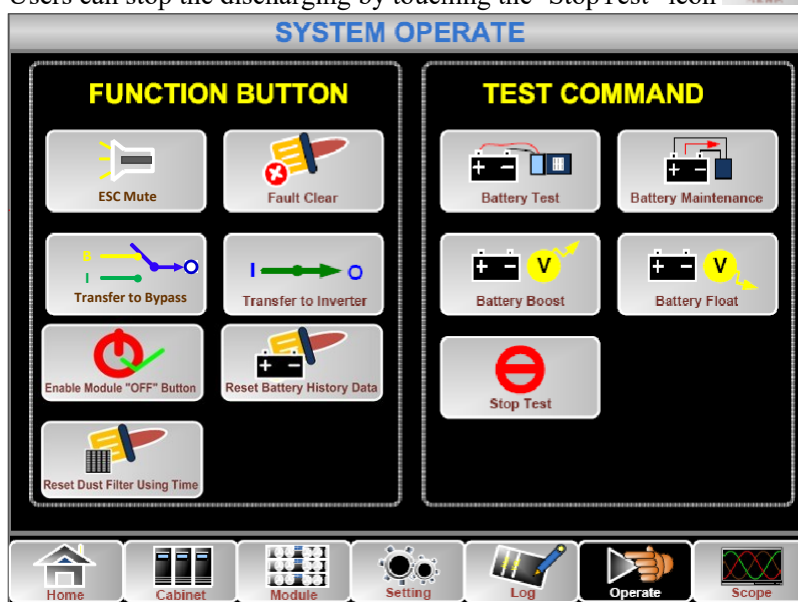

Figure 4-3 Battery maintenance
- 1) Manual Discharging test. Enter the menu Operate, as is shown in Figure 4-3 and touch the icon